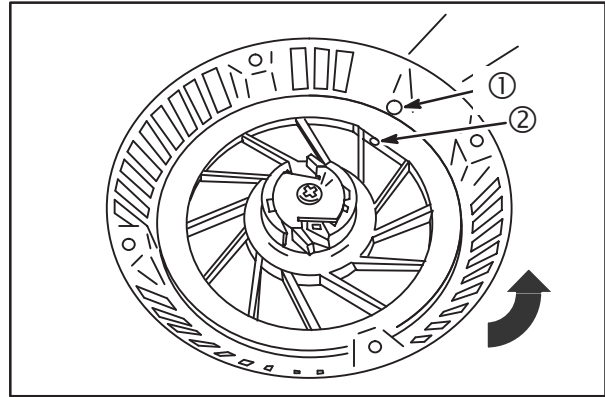

Fig. 53
3. Rotate pulley COUNTERCLOCKWISE (arrow) six complete turns, **Fig. 53**.
4. Rotate pulley CLOCKWISE just until rope hole in pulley (2) is in line with starter housing eyelet (1).